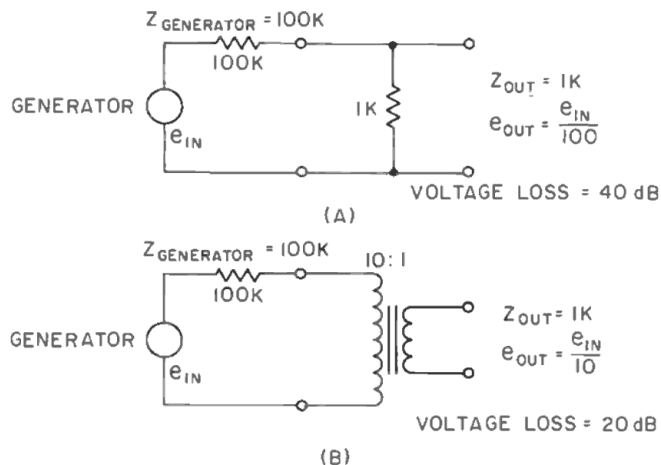

Figure 6. Impedance matching. At (A) a resistive network, and at (B) a transformer.
Impedance Transformation. Very often we wish to go from a high impedance circuit to a low impedance circuit. A transformer will accomplish this with the minimum possible loss. If we want to reduce the output impedance of the circuit shown in FIGURE 6(A) from 100 k to 1 k by means of a resistance network, the output voltage will be 40 dB down from the generator voltage. If we use a transformer with a primary-to-secondary turns ratio of 10:1 to change the impedance, then the output voltage will be down only 20 dB from the generator voltage (FIGURE 6(B)). By using a transformer for impedance transformation, we provide minimum voltage loss, and actually no power loss, at the low impedance output terminals.